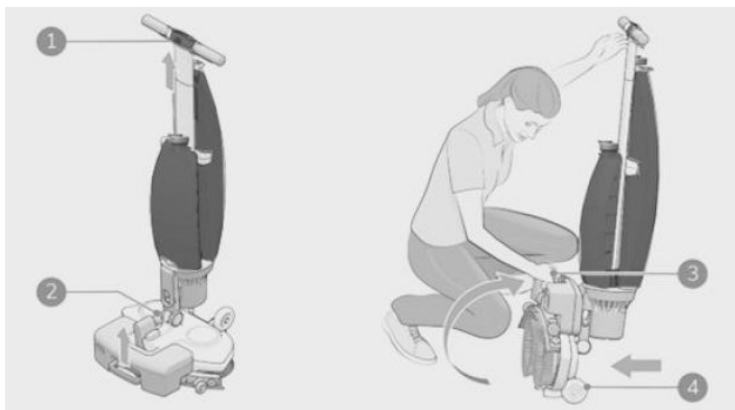

Fig.19
1. Make sure the vacuum hose (Fig. 19 (2)) is pushed back into the machine so it cannot get squeezed.
2. Crouch down and hold the handle (Fig. 19 (1)) with one hand while holding the scrub deck (Fig. 19 (3)) with your other hand.
3. Lift the scrub deck slowly until it stands upright on the front wheels (Fig. 19 (4)). Guide the body towards the scrub deck until it snaps into a resting position.